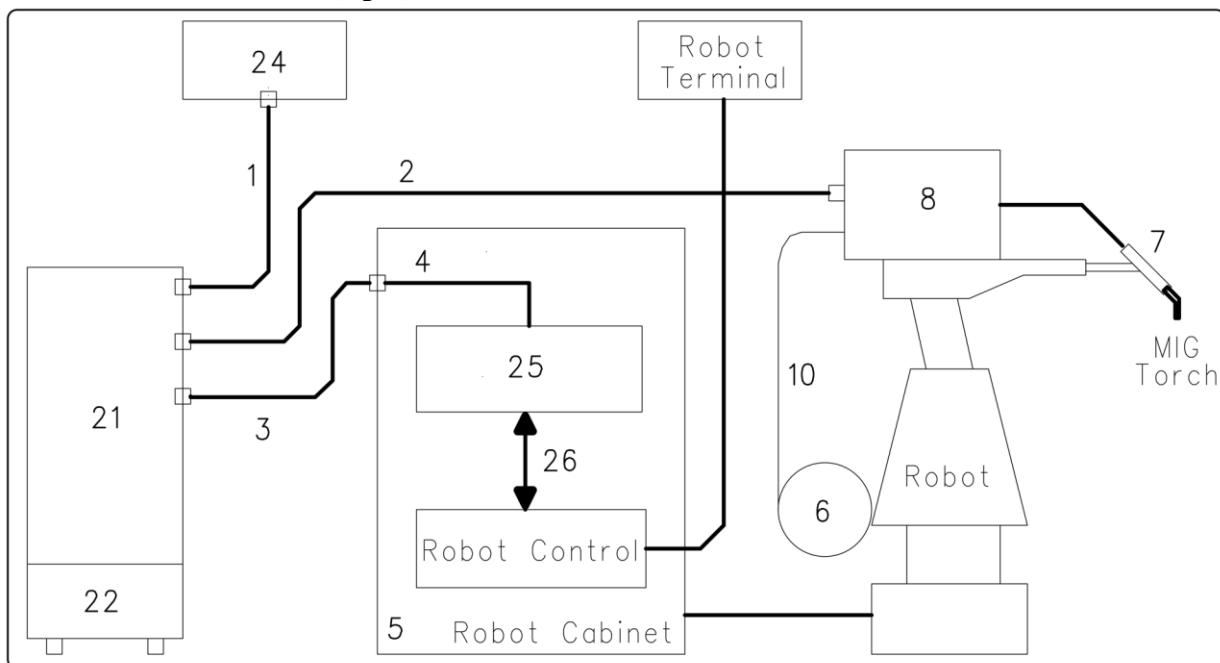

fig. 3
Connect the Control Panel (24) to the Power Source (21) by means of the connection cable (1) (fig. 3). Place the Robot Interface (25) inside the Robot Control Cabinet (5), following the instructions given in the Robot Interface Instruction Manual.
It is made up of a Power Source, which may be equipped with a Cooling Unit, a Wire Feeder, a Control Panel, and a Robot Interface (fig. 3).